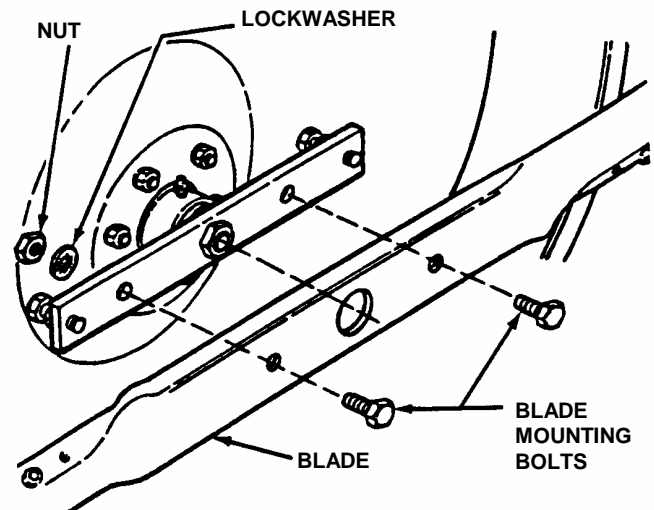

FIGURE 4.10
4. Remove blade. See Figure 4.10.
8. Reinstall blade. See Figure 4.10. Torque blade mounting bolts to recommended range of 30 to 40 ft. lbs.